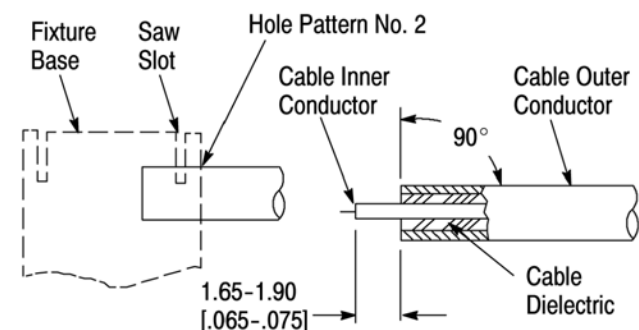

Figure 3
1. Insert the squared cable end into the fixture base hole pattern No. 2, as shown in Figure 3.
5. Complete trimming of cable inner conductor to dimension shown in Figure 3.